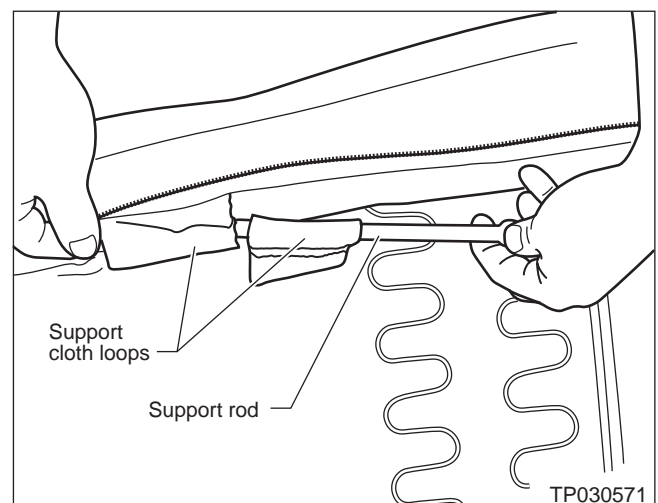

Figure 12
14. Slide the support rod back into the loops of the cloth support straps (see Figure 12).